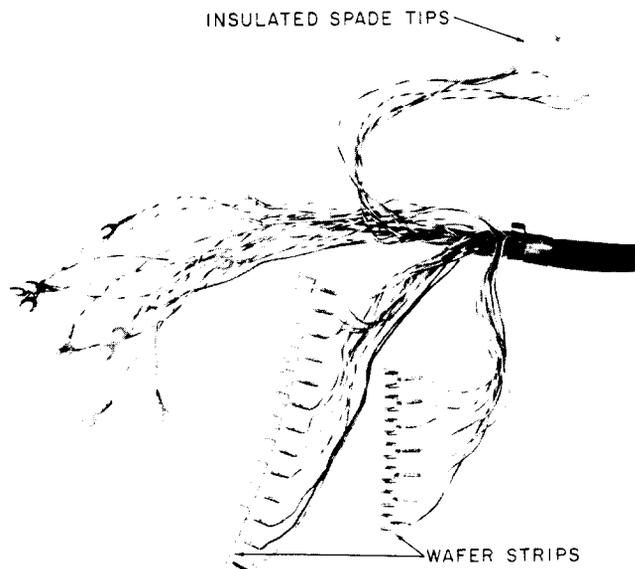

Fig. 2—Slotted Wafer Strip End of Mounting Cord, Later Type
2.05 Mounting cords of late manufacture feature a slotted wafer strip (Fig. 2) to facilitate replacement.